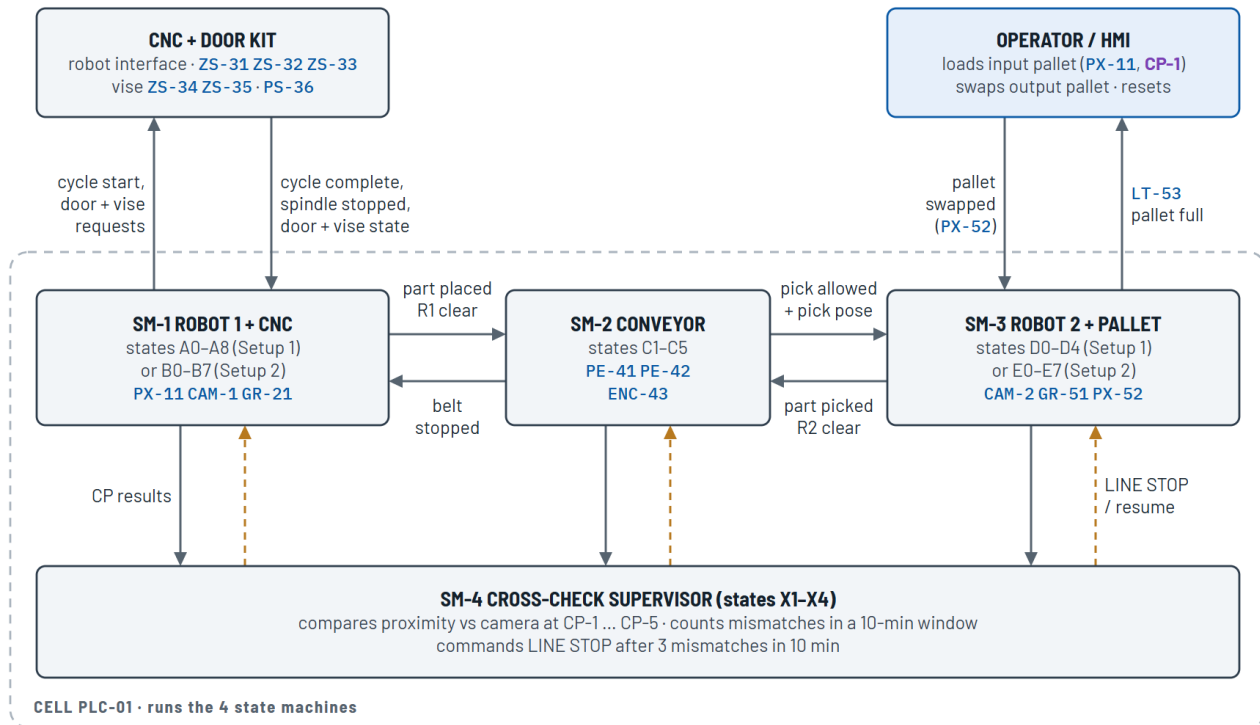

Figure 2. Control architecture: four state machines in the cell PLC and their handshake signals.
- Four state machines run in the cell PLC: **Robot 1 + CNC**, **Conveyor**, **Robot 2 + output pallet** and a **cross-check supervisor** (Figure 2). No step starts on a timer: every command is confirmed by a sensor before the next step, and every confirmation has a timeout that raises an alarm naming the sensor.
The cell PLC runs four state machines in parallel (Figure 2). Each one moves only on its own sensors and on the handshake signals written on the arrows: Robot 1 tells the conveyor "part placed", the conveyor tells both robots "belt stopped", Robot 2 receives "pick allowed" with the pick pose from CAM-2, and every machine sends its checkpoint results to the cross-check supervisor, which can command a line stop.